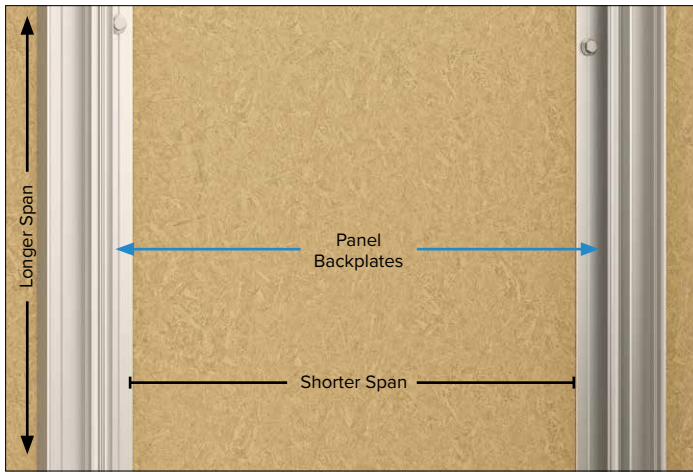

Figure 1
- 1 Have panel backplates installed following the QuickPanel Installation Guide. Always install panel stiffener parallel to the short span of ACM Panel (Figure 1).